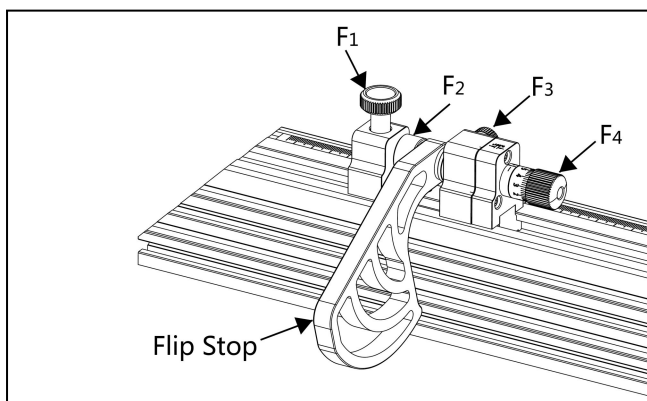

Fig.22
10.3 Positioning the flip stop (*Fig. 22*)